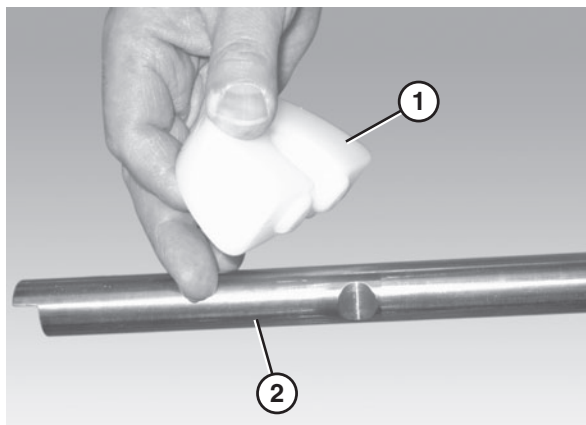

Figure 48
1. Attach the chain return shoes (**Figure 48, item 1**) to the return shaft (**Figure 48, item 2**).